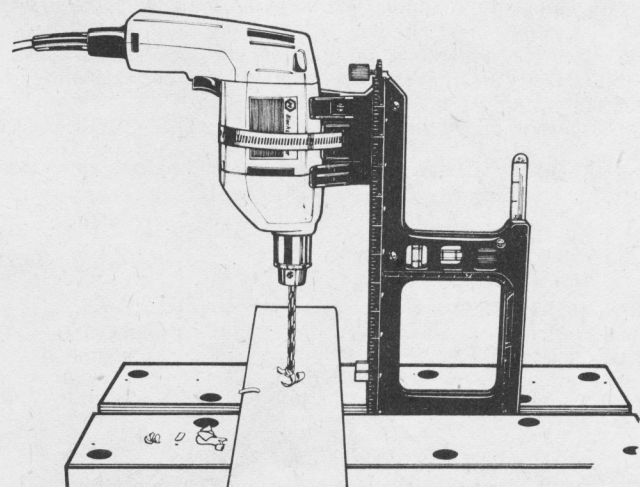

FIGURE 8
- Open the Workmate vise jaws enough to clear the Guidemate body between the vise jaws as shown in Fig. 8.
- Rest end of slide on vise jaw top, then line up the 90° marking on the Guidemate body Fig. 8 with the top face of the Workmate vise jaw.